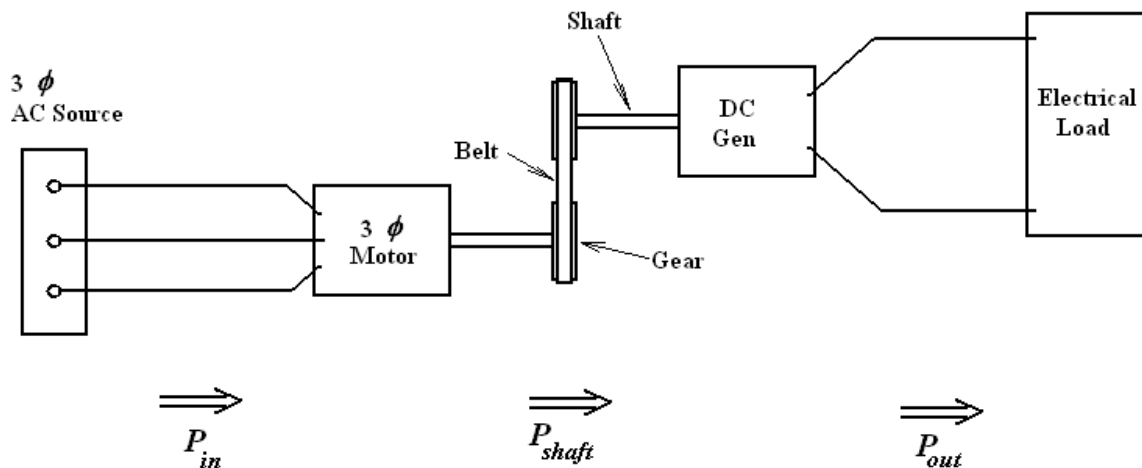
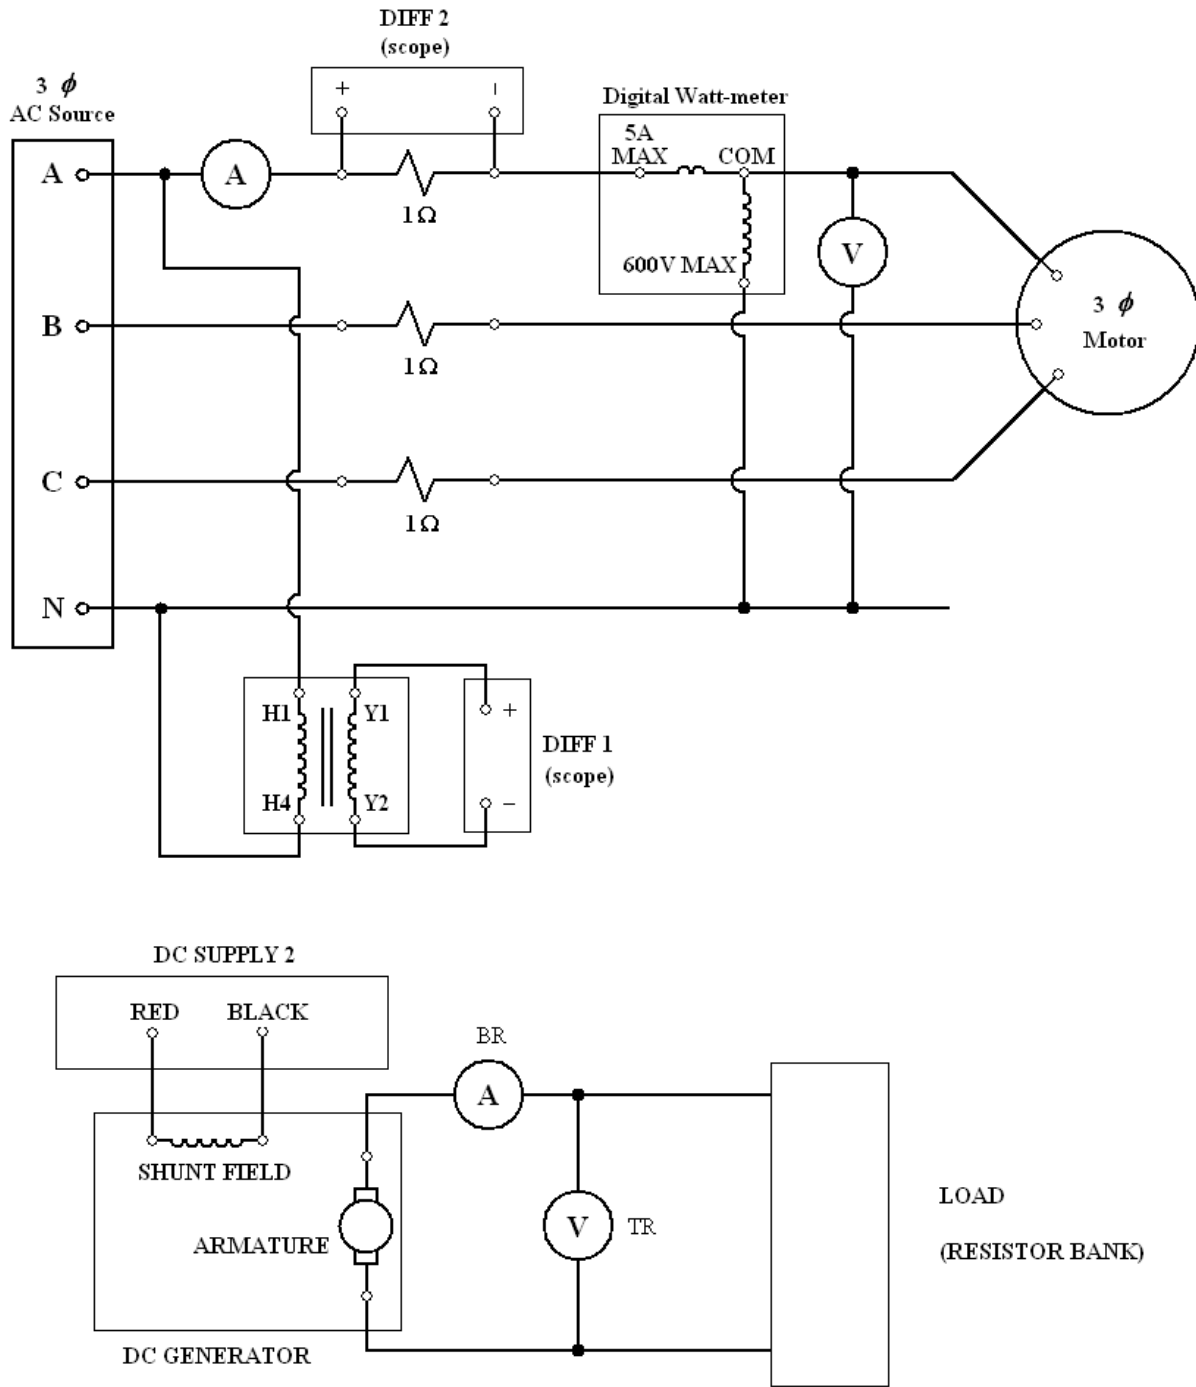

Figure 1
Figure 2
Motor – Generator sets have many practical applications. Our main interest with the present lab is to gain an understanding of basic power relationships in a simple electromechanical system in lieu of exploring practical applications. In understanding M-G set operation it is critical understand the “power flow path.” This path is defined as follows: power flows from the electrical source in the console into the motor. The motor converts this electrical power into mechanical power. This mechanical power is transferred to the generator via a belt and gear assembly and the generator converts this mechanical power into electrical power. Finally this electrical power is absorbed by the electrical load at the “end” of the system. Figure 1 shows the corresponding electromechanical diagram with energy flow direction.
The three-phase motor (blue faceplate) in Figure 1 is a 115V (line-line), ¼ horsepower motor. The generator is a 125 Volt, 1/3 horsepower DC machine that is an integral part of the dynamometer setup. The electrical load is a resistor bank with a total of five toggle switches which must be in the “**up**” position while running the experiment. Measurement equipment is not shown in figure one. In order to connect the measurement equipment needed to conduct the experiment you must make connections according to Figure 2
The generator is loaded by the resistor bank shown in Figure 2. All switches should be in the "off" position (center position) for no-load tests. To load the generator, move all the switches to the "up" position.
A. Connect the system shown in Figure 2. Notice that the line current flow into the motor will be displayed on channel two of the scope. Since the one-ohm resistor must be inserted into a phase in order to measure current, a one-ohm resistor is also inserted into the other two phases in order to keep the circuit balanced. Notice that there is an ammeter and voltmeter connected on both the AC and DC circuits. Also notice that the DWM (digital watt-meter) is configured to display single-phase power, not three-phase power.